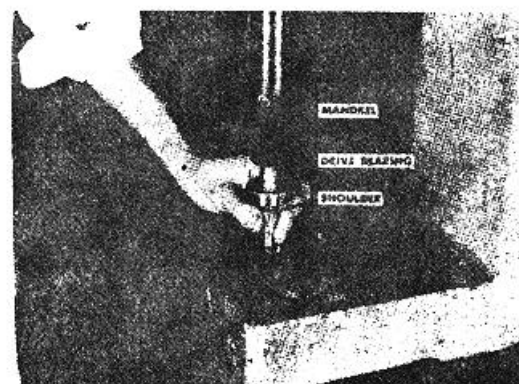

Figure 4-44. Press on drive bearing.
4. Press the drive bearing over the drive shaft. Press on the bearing inner race. Fig. 4-44.